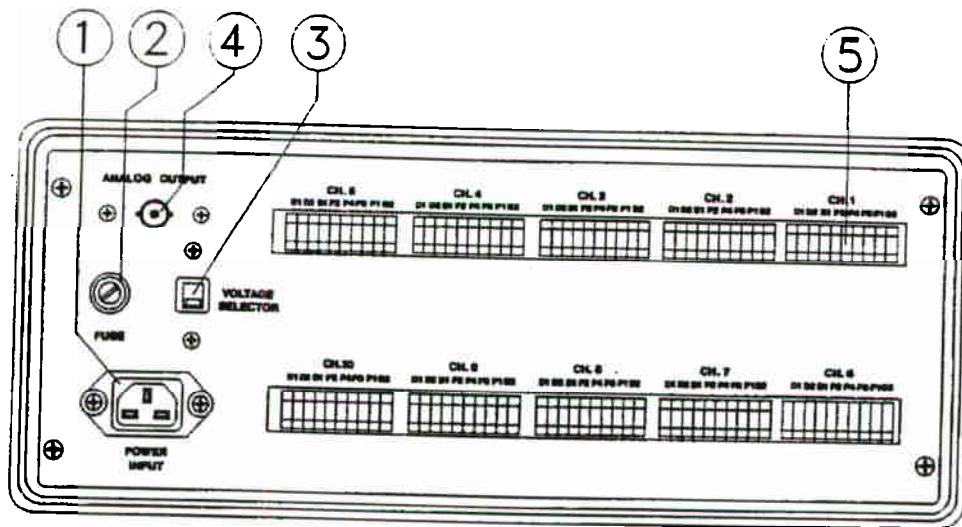

Fig. 3.2. Rear
10 Channel Digital Strain Indicator, which operates on either 115VAC or 230VAC, is a ten input meter which may be used for $\frac{1}{4}$, $\frac{1}{2}$, or full bridge inputs. Readings are given directly in microstrain on the $4\frac{1}{2}$ digit display. The front panel gauge factor dial covers the range of gauge factors likely to be encountered in use, but gauge factors outside this range may be easily accommodated by setting the gauge factor to 2.00 and calculating the strain (see Section 4). A Precision Two State Zero Adjustment is provided, ensuring ease of zero setting together with ease of re-setting for subsequent tests. An analogue output is provided on the rear panel for connection to a recorder. Refer to Figure 3.2 in Section 3.2.
Figure 3.2 shows the rear part of the strain indicator.
1. Make sure the voltage Selector Switch (fig. 3.2, #3) is set to the appropriate voltage for your country.
6. For dynamic measurements, the signal available at the BNC socket on the rear panel (fig. 3.2 #4) may be connected to an amplifier or a recorder. The output at this socket is ± 2 volts which is equivalent to $\pm 20,000$ microstrain. The frequency response is DC to 20 KHz.